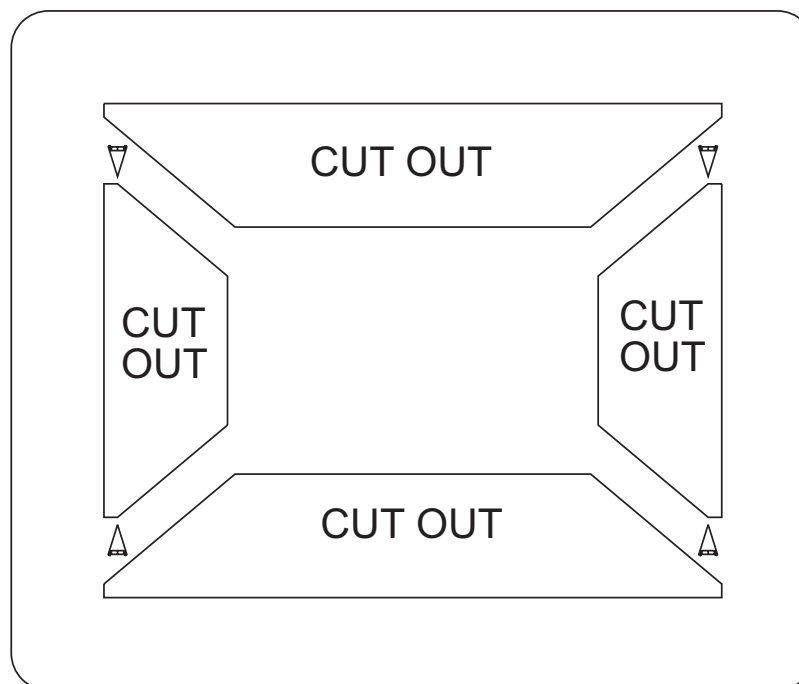

Figure 4 – Back Box Mounting Wall-Cutout Template
1. Place the **Mounting Template** on the **wall surface** as shown in **Figure 4** above.